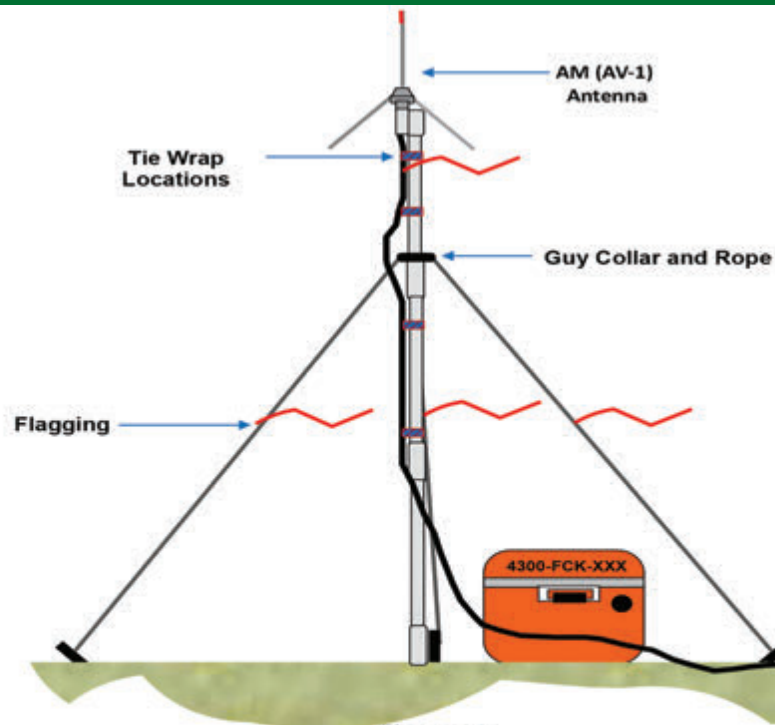

Figure 1:
1. Antenna Installation: (See Figure 1)